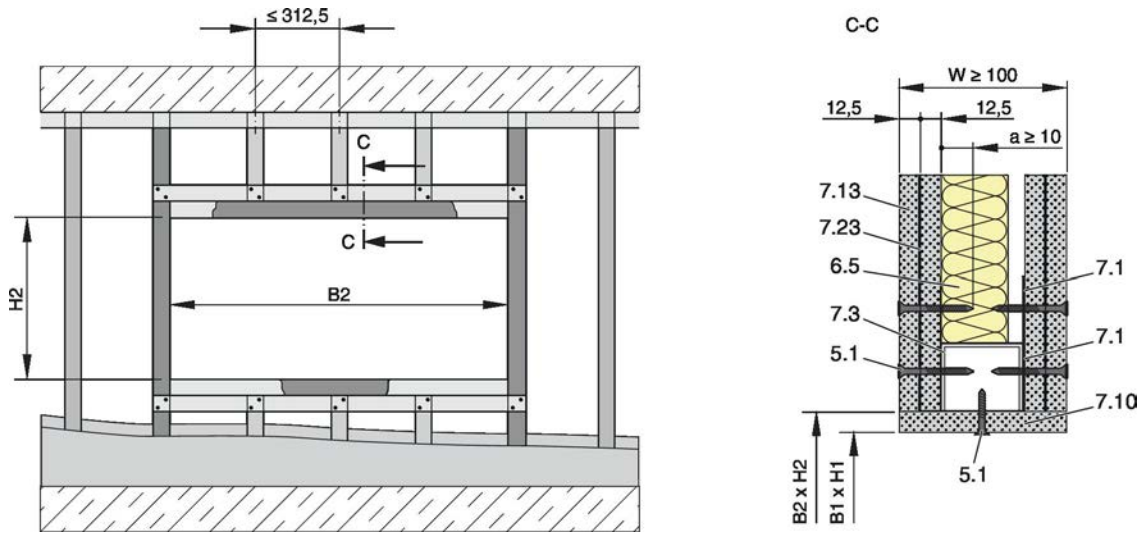

Fig. 50: Compartment wall
1. ▶ Erect the lightweight partition wall according to the manufacturer's instructions and create an installation opening Fig. 50 to Fig. 52.
1. ▶ Erect the compartment wall according to the manufacturer's instructions and create an installation opening Fig. 50 to Fig. 52.